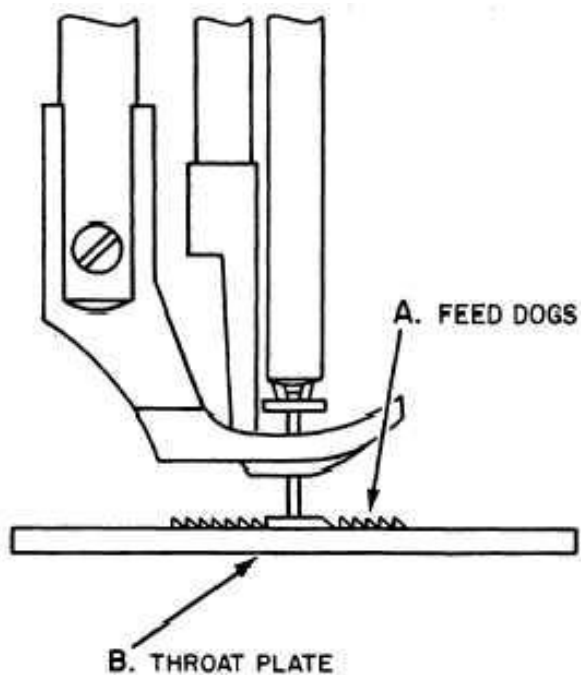

Figure 5: Feed dogs
- a. Turn the balance wheel toward the operator until the feed dog reaches its highest point (figure 5), and observe the relationship of the feed dog and the throat plate. If the valley between the teeth is level with the top of the throat plate, the feed dog height is correct; if the valley is not level,